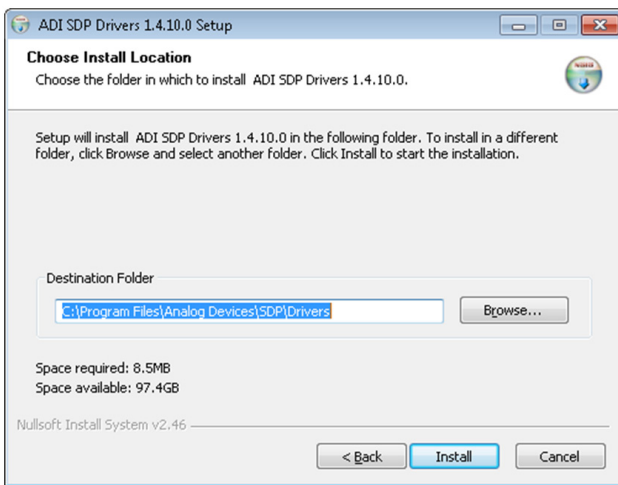

Figure 3. SDP Drivers Setup Install
4. Within the SDP drivers setup wizard, choose install location, and then click Install (see Figure 3).